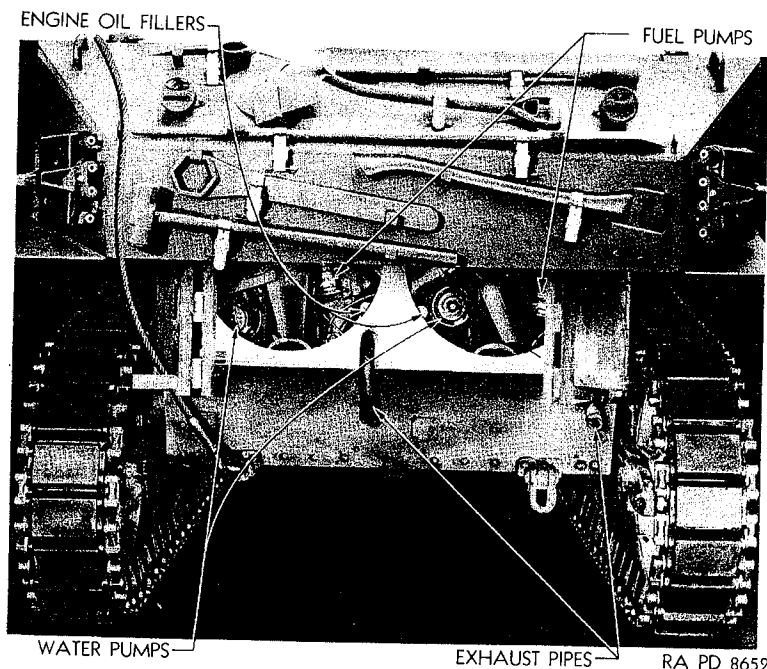

Figure 16—Engine Compartment with Doors Open
a. The oil level in each engine should be checked every day. Plunger-type gauges are fitted into the caps of the filler pipes, which are accessible through the fan shrouds. (See Fig. 16.) Whenever checking oil level or adding oil, be sure the master battery switch is turned off to minimize the possibility of the engines being started accidentally. The oil gauges are graduated in quarts and the correct level is at, or just below, the "Full" mark. Never allow the level to fall below the mark specifying "Add 1", and never add oil above the "Full" mark.